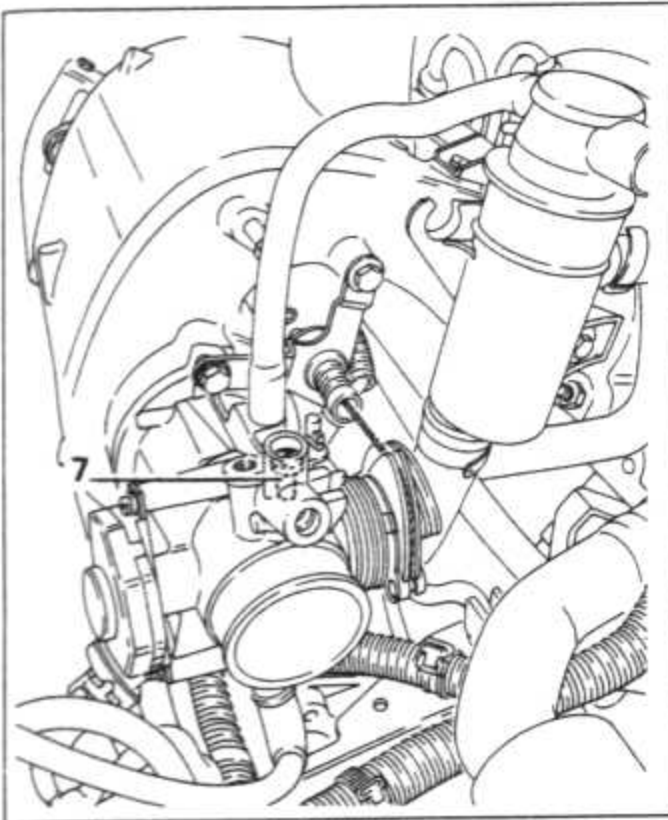

Fig. 13.30 Idle speed adjustment screw (7) - Motronic M1.3 (Sec 8)
4 Turn the idle speed adjustment screw (7) in Fig. 13.30, to obtain the specified idle speed (refer to the Specifications).